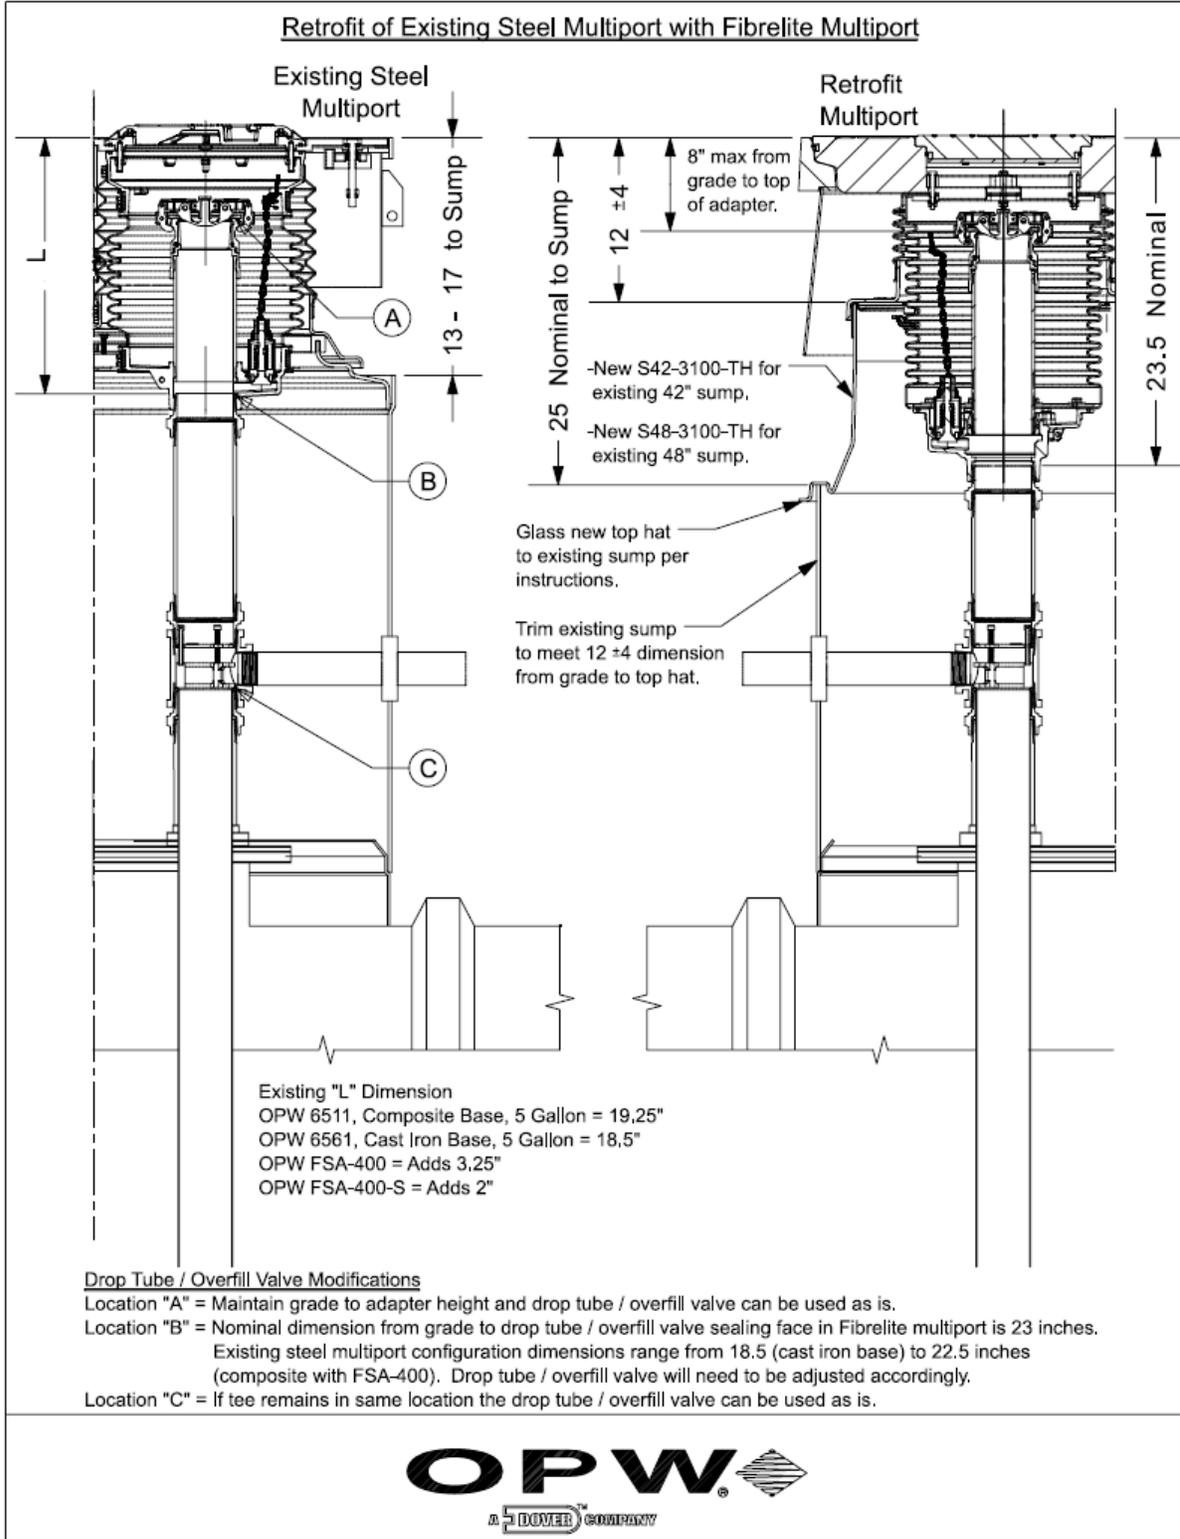

Figure 27
- 41. Ensure sump / top hat installed under cover can be adapted to meet the dimensions shown in Figure 27.
- 42. Ensure riser heights can be adjusted to meet dimensional requirements shown in Figure 27.
- 43. If desired, the existing drop tube / overfill valve can potentially be used with the new installation. Determine mounting location of current drop tube / overfill valve (See Figure 27 for 3 possible options).
- 46. Install top hat / riser with WS-RING-37 to meet the 12 inch dimension from grade to top hat shown in Figure 27. Follow instructions supplied with top hat or riser. Steps 23 thru 30 may apply.
Note: If drop tube / overflow valve were to be installed in Location C as shown in Figure 27 if the tee remains in same location the drop tube / overflow valve can be used as is.